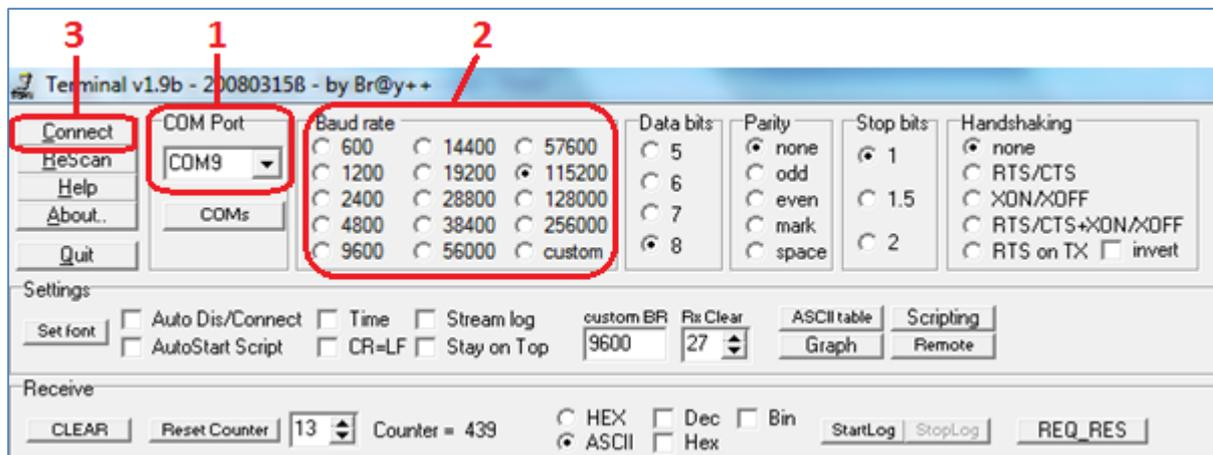

Figure 3
Step 9: Open the 'ArmagardTerminal' program from your computer (mentioned earlier) and select the correct COM port from the drop down menu as shown in figure 3 box 1. The correct COM port should be the last one on the list from the drop down menu.
Step 10: Set the default BAUD rate for setup as 115200. These can be selected from the pre-set figures shown in figure 3 box 2 above. Now click 'connect', highlighted in figure 3 box 3 above.